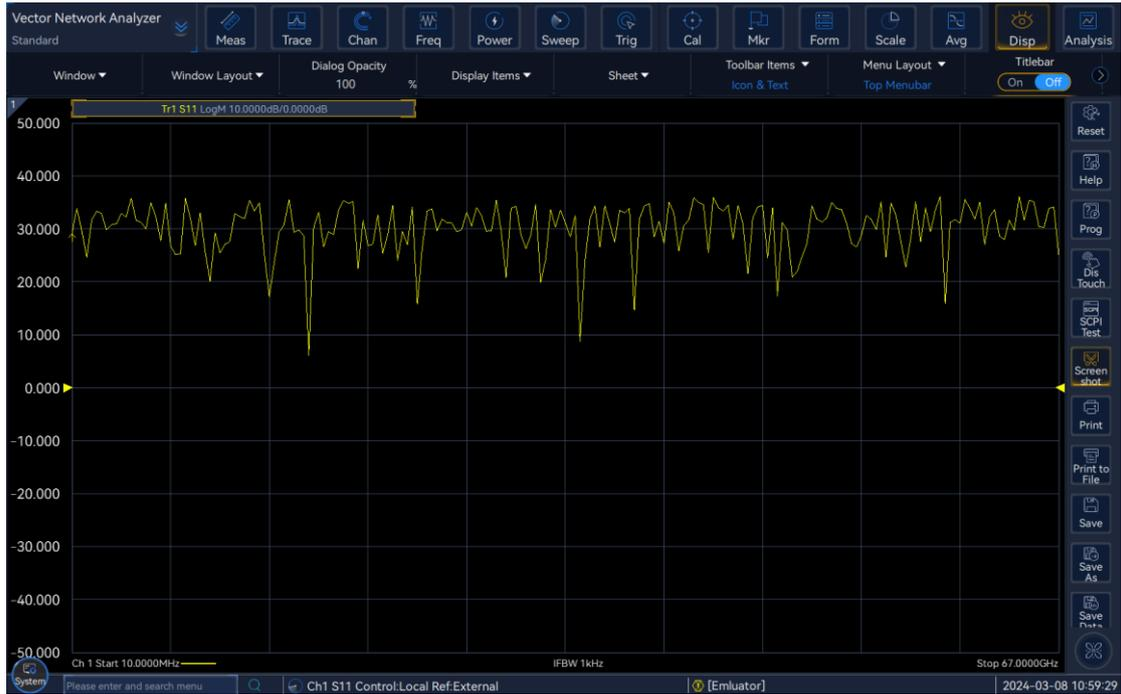

Figure 3.3 Main interface of the lightwave component analyzer software
Step 3 Turn on the power switch of the front panel, as shown in Figure 3.3. Before powering on, do not connect any equipment to the lightwave component analyzer. If everything is normal, power on. After powering on, the indicator above the power switch of the front panel will turn green.
The main interface is shown in Fig. 3.3.